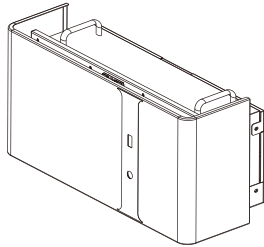

Figure 2.19 Remove the Decoration of M4856-P
Step 2 Pull down the buckles on the top and bottom of the battery and take out the decoration, as shown in Figure 2.19